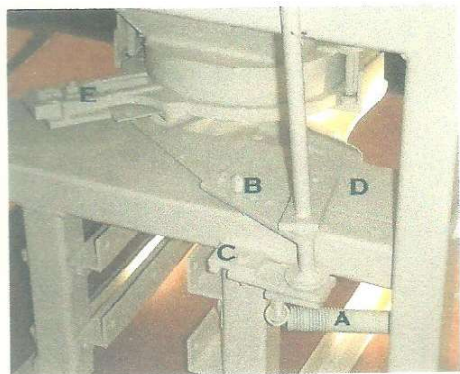

Figure 1
2. See Figure 1: Remove manual control handle as follows:
- A. Remove tension spring (A) on handle by loosening eyebolt on spring.
- B. Remove bolt (B) that runs through opening plate linkage and handle linkage.
- C. Remove 5/16 X 1-1/4" capscrew that bolts handle to broadcaster. Rock handle down and out to remove. (C)
4. Remove guard or deflector (D, in Figure 1) by: removing the two sheet metal screws that fasten the deflector plate to 2" square tubing.